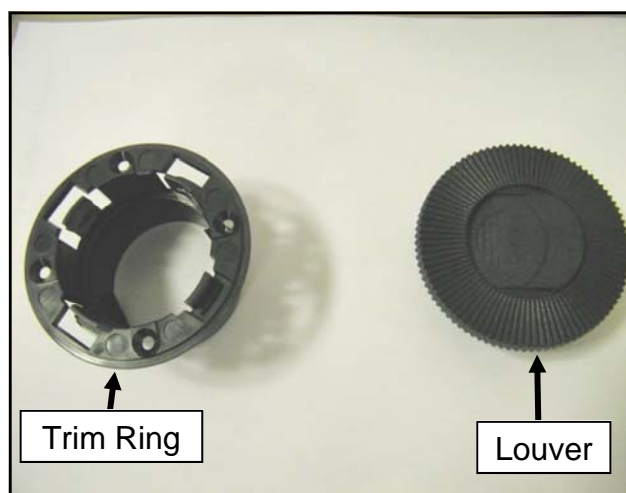

FIGURE 6.11
11. Remove the adjustable louver from its trim ring as shown in Figure 6.11.
13. Fasten with four (4) self drilling flat head screws.
17. Install the flexible vent ducts over the (3) vent outlets on the heater core box.